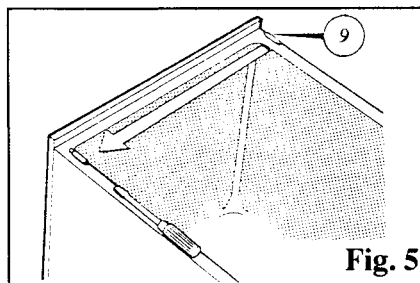

Fig. 5
3. Unscrew the upper hinge pin (9) and transfer it to the opposite side (See Fig. 5).